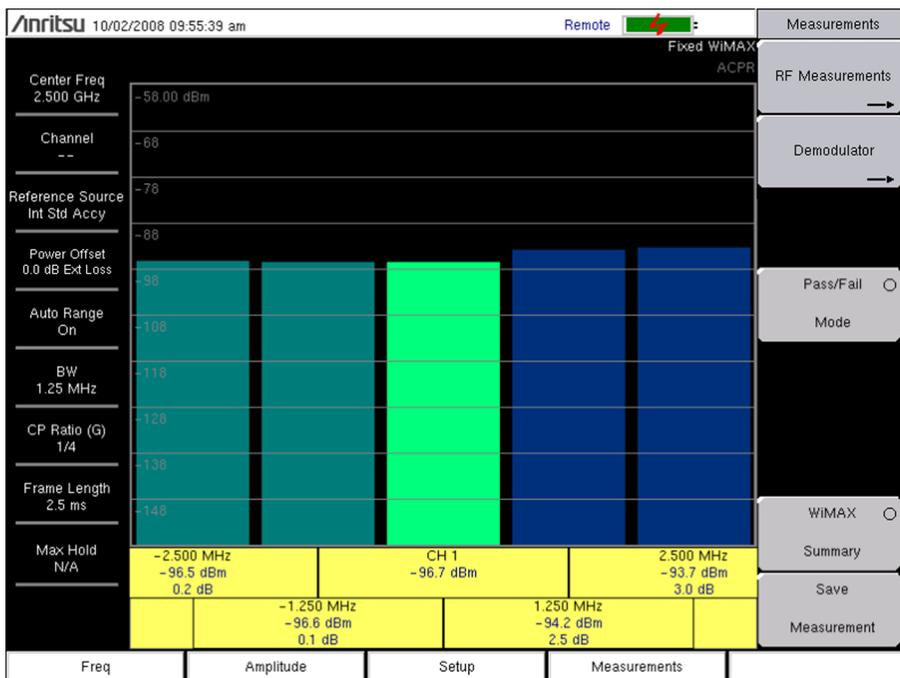

Figure 2-3. ACPR
4. Press the ACPR submenu key to activate the measurement. The sample image in Figure 2-3 may differ from any image on your instrument.